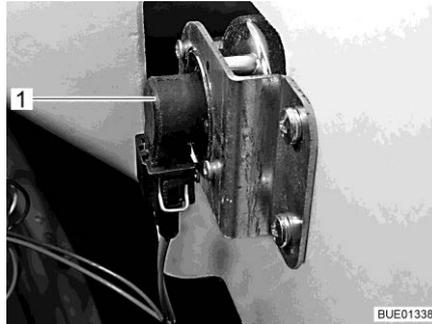

Fig. 290 Direction indicator
- Put your hand behind the lamp holder (Fig. 290,1).